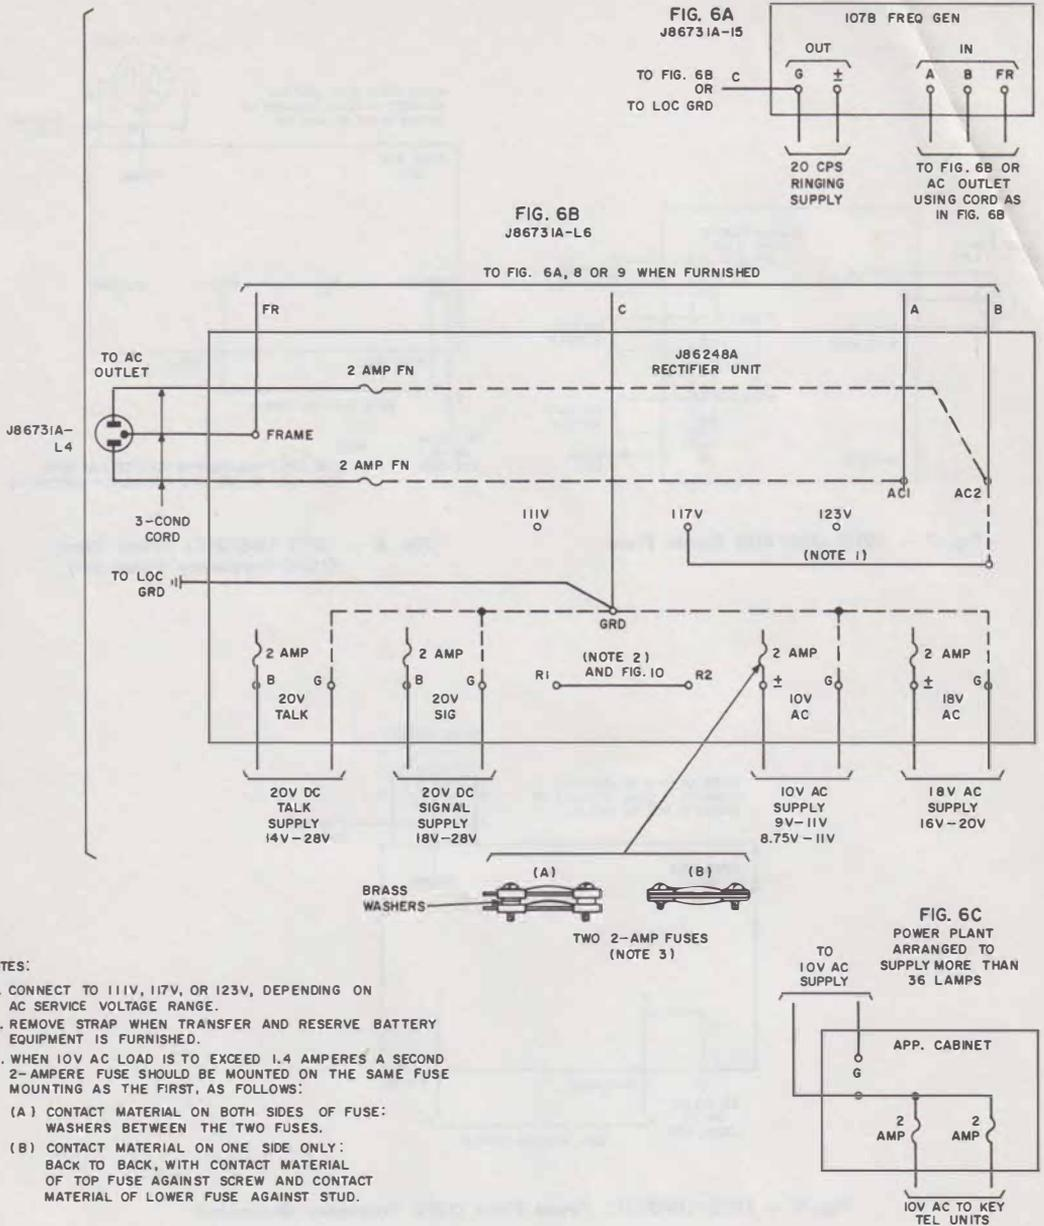
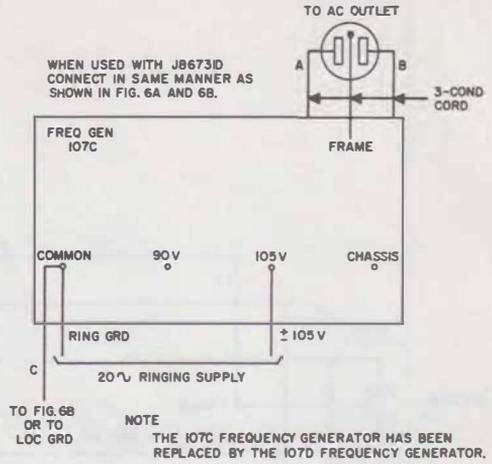

Fig. 6 - 101G (J86731A and D) Power Plants
Fig. 8 - 101G (J86731C) Power Plant (107C Frequency Generator)
4.01 Power plant connections are shown in Fig. 6, 7, 8, and 9.
*See Note 3, Fig. 6. **See Note, Fig. 8. ***Total DC load not to exceed 1.5 amps.